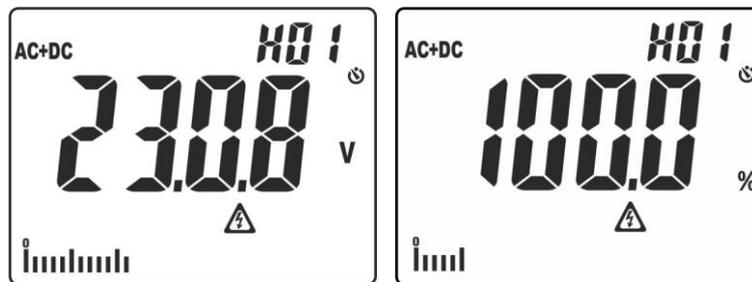

Fig. 3: Display of amplitude of harmonic analysis
- Simple pressing of the key to display the amplitude of voltage and current harmonics up to the 25th (**Hdc**, **H01... H25**) in absolute or percentage format in relationship with the fundamentals of input signals (for voltage values $V_{AC} > 0.5V$ and current values $AC > 0.5A$ and frequency in the range $42.5Hz \div 69Hz$) and the percentage value of parameter **THD%** (see § 9.4) as shown in Fig. 3. Use keys \blacktriangle and $\blacktriangledown/\text{I}$ to increase/decrease the order of the harmonic.